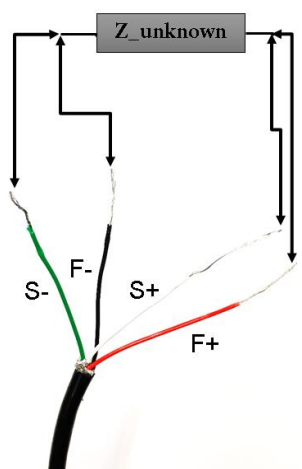

Figure 2. USB Cable to  $Z_{UNKNOWN}$  Connection
- Connect  $Z_{UNKNOWN}$  on the stripped end of the USB cable as detailed in Figure 2.